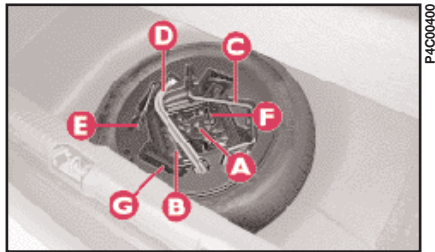

fig. 2
– Unscrew the fastener **A** (fig. 2) and take out the tool holder.
5) Insert the other three bolts, using extension **F** (fig. 2) (1.2 16V  blue version).
6) Tighten the bolts using the special wrench **D** (fig. 2).
To unscrew/screw the inflation valve cap, use extension F (fig. 2).